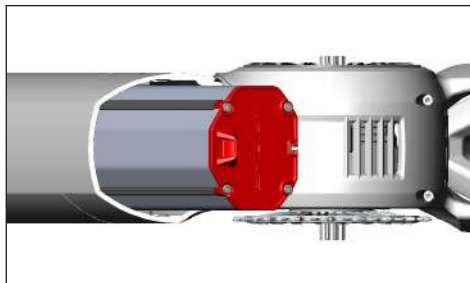

Fig. 15: Inserting the battery into the down tube
- Insert the battery into the down tube (see Fig. 15).